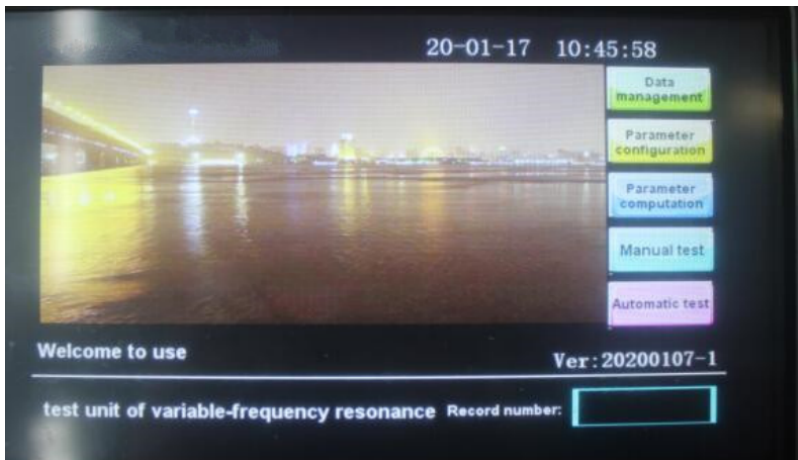
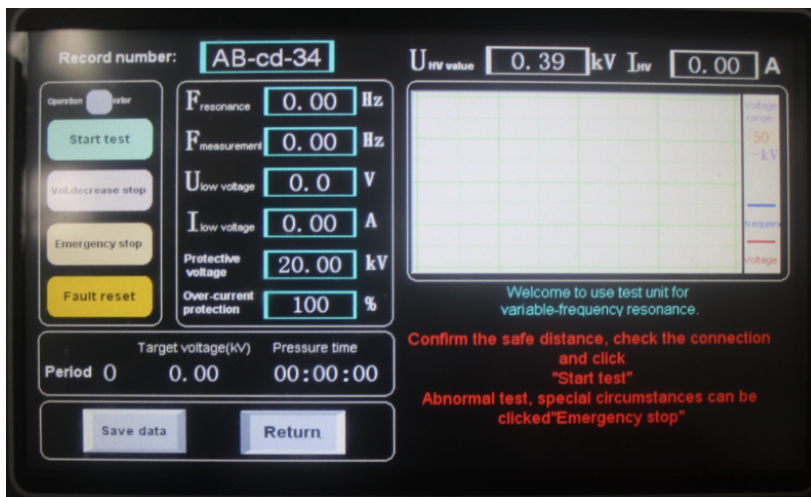
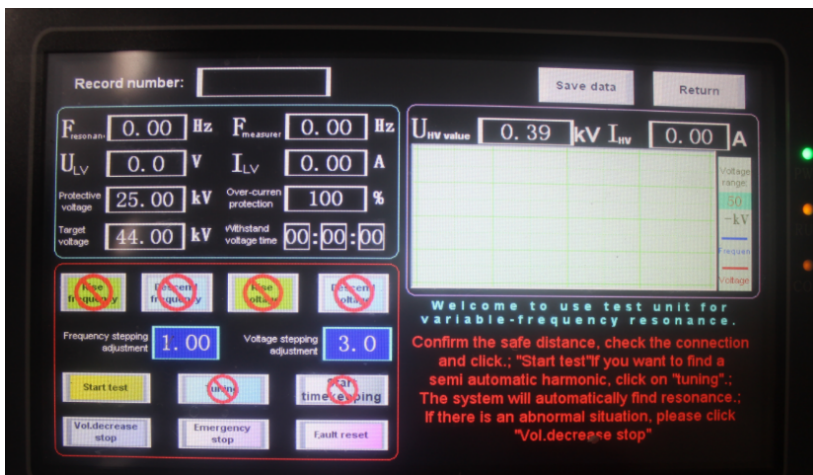
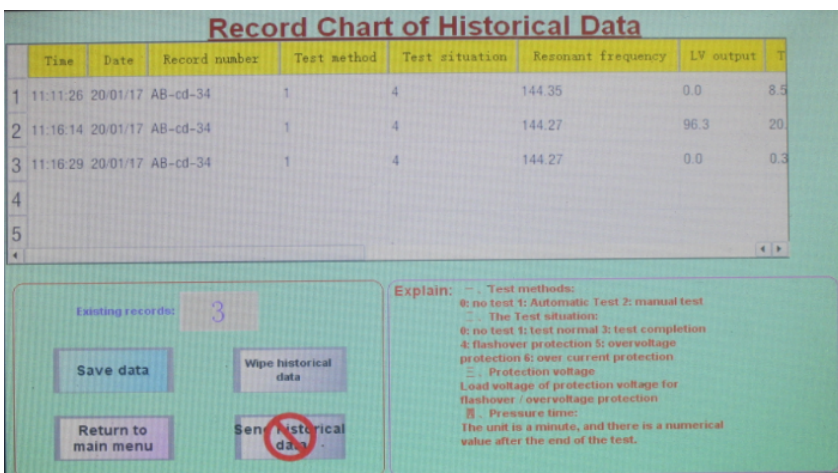

Figure 2
Figure 5
Figure 12
Figure 16
3.1 After turning on, the display interface is shown in Figure 2.
Return menu means returning back to main menu, shown in Figure 2.
Click **“Automatic test”** after entering into interface of Figure 2 or 4. Click **“Start test”** after entering into interface of Figure 5. Then the tuning, voltage rising, timekeeping and voltage decreasing can be carried out automatically.
Click **"Manual test"** after entering into the interface of Figure 2 or 4; Click **"Start test"** after entering into the interface of Figure 12. The manual/ semi-automatic frequency modulation and manual voltage rising can be carried out.
Enter material interface by clicking "File management" after entering into the interface of Figure 2; then records for all previous tests can be consulted, shown in Figure 16.